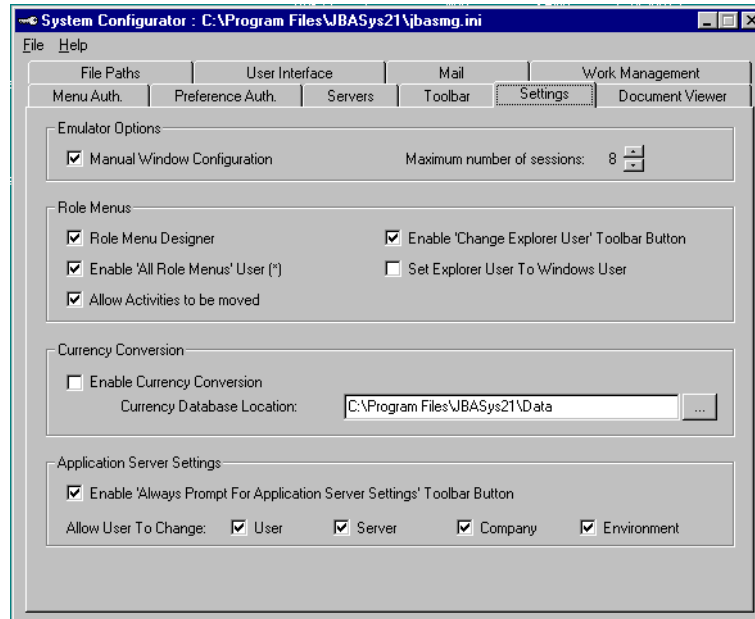

Figure 50. System Configuration tool - Settings
5. Select the Role Menu options to enable Role Menu Designer and Allow Activities to be moved as shown in Figure 50.